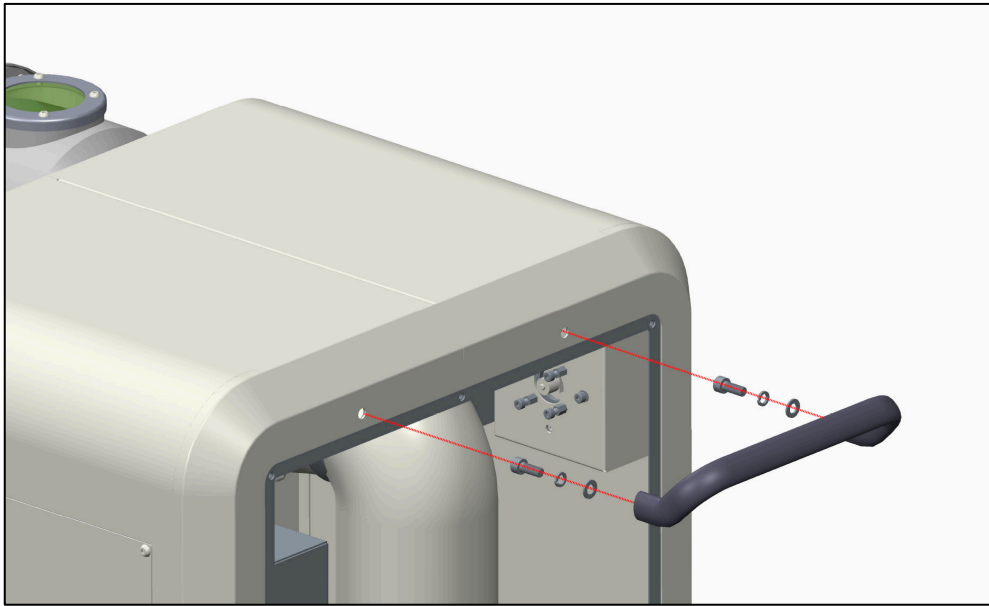

Fig.11
5. Install the handle as Fig.11. (Side cover plate need to be removed.).